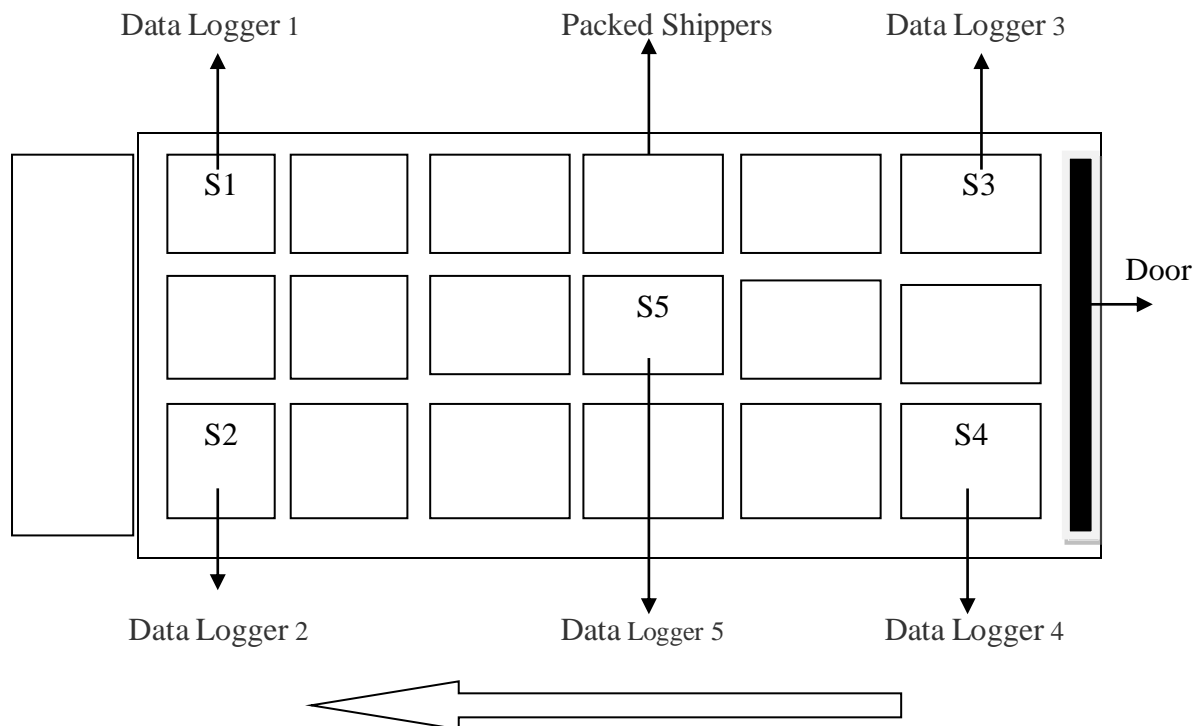

Fig. No. 1
- 8.2.4 FG officer/Executive shall kept this shipper in four corner and center define in figure No. 1 of the Vehicles. Vehicles should be properly locked; Vehicle driver should be trained for handling the data loggers during transit. Vehicle Drivers are informed about the perishability of the product and the maximum acceptable transport time.